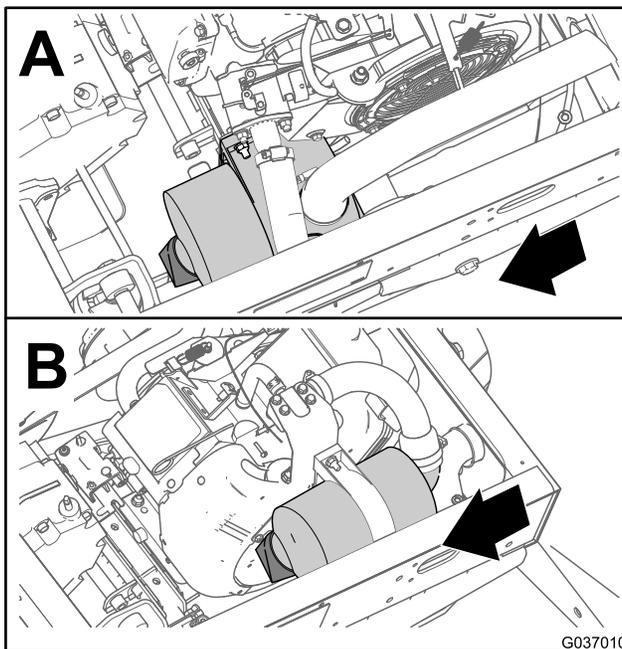
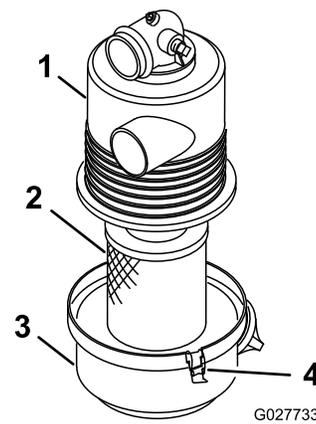

Figure 32
Figure 33
2. Check the air-cleaner body for damage which could possibly cause an air leak (Figure 32 and Figure 33).
3. Release the latches securing the air-filter cover to the air-filter housing (Figure 33).
4. Separate the air-filter cover from the air-filter housing, and clean the inside of the cover (Figure 33).
3. Insert the air-filter element into air-filter housing (Figure 33).
4. Align the air-filter cover with the air-filter housing (Figure 33).
5. Secure the cover to the housing with the latches (Figure 33).